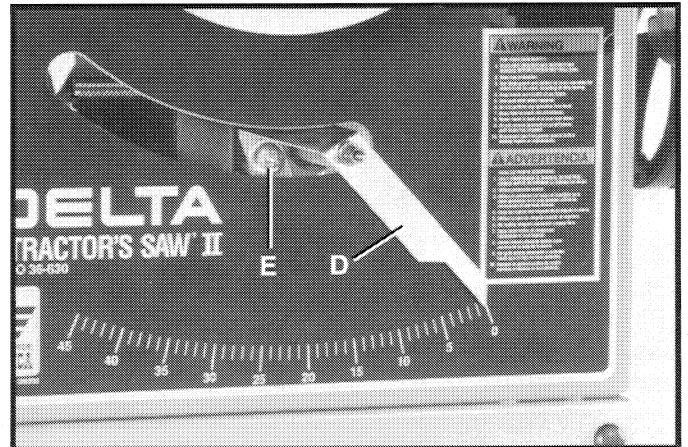

Fig. 68
6. Adjust pointer (D) Fig. 68, to point to the zero degree mark on the scale by loosening screw (E), adjusting pointer (D) and tightening screw (E). Blade raising and lowering handwheel removed for clarity.